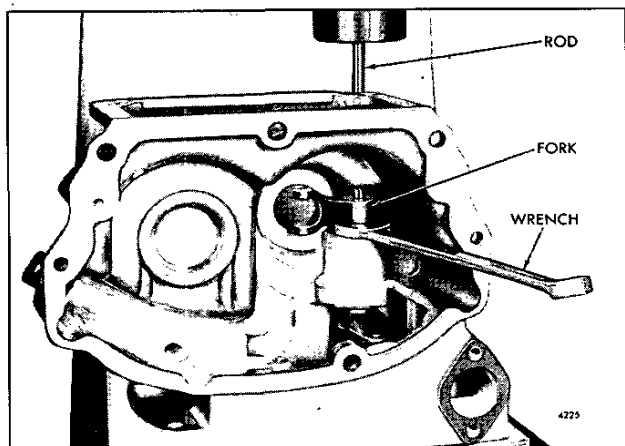

Fig. 8 - Removing Governor Operating Fork
14. Place the governor housing, upside down, on wood blocks on the bed of an arbor press. Then place an end wrench between the operating shaft fork and the boss in the housing. Insert a rod through the cup plug hole in the housing and against the end of the shaft, then press the shaft out of the fork (Fig. 8).